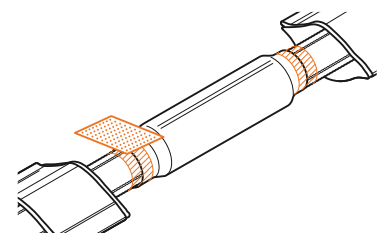

Fig. B11.1.7
7. Lightly abrade the ends of the sleeve and the outer casing with abrasive paper for a minimum length of 150 mm in both directions (Fig. B11.1.7). Clean this area with alcohol wipes.